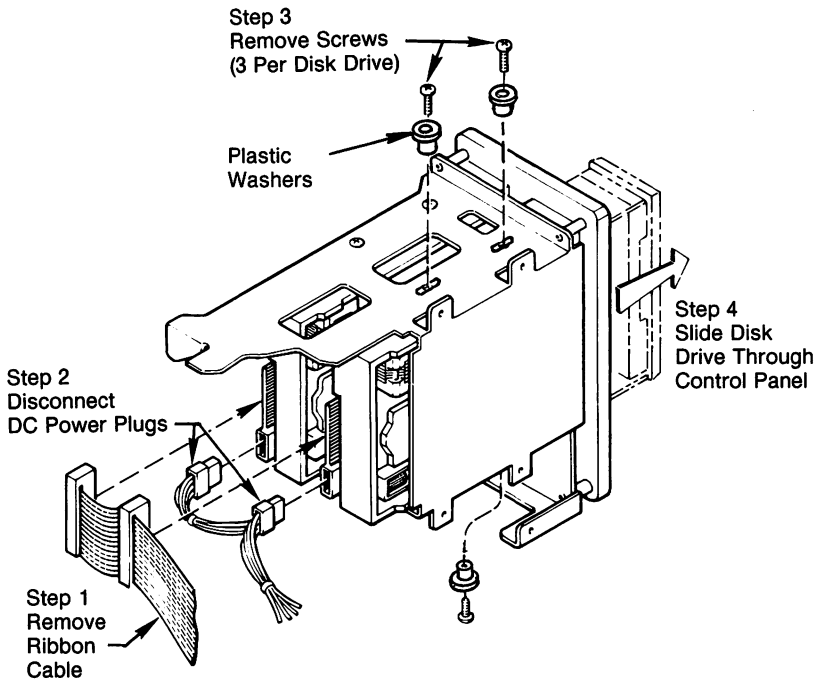

Figure 4-14 Flexible Disk Drive Removal
Remove the cabinet as previously described. Refer to Figure 4-14 for parts illustrations.
7. Pick-up the three screws and plastic washers and place a plastic washer on each of the three screws, with the largest diameter of the washer against the underside of the screw head. Refer to Figure 4-14 and insert two screw/washers into the two top mounting slots. Make sure that smallest diameter of plastic washers are seated into slots in drive bracket and then into the threaded holes of the flexible drive. Snug, but do not yet fully tighten these two screws.
8. Also as indicated in Figure 4-14, insert the bottom screw and washer and snug but not yet fully tighten, again making sure the washer seats in the drive bracket slot.
Remove the cabinet as previously described. Refer to Figures 4-14 and 4-15 for parts illustration.
4. Pick-up the three screws and plastic washers and place a plastic washer on each of the screws with the largest diameter of the washer against the underside of the screw head. Refer to Figure 4-14 and insert two screw and washers into the two top mounting slots. Make sure that smallest diameter of plastic washers are seated into slots in the drive bracket and that the screws are aligned to go into the threaded holes of the flexible drive. Snug, but do not yet fully tighten these two screws.
5. Also as indicated in Figure 4-14 insert the bottom screw and washer and snug but do not yet fully tighten, again making sure the washer seats in the drive bracket slot.
The next several steps involve attaching the cables to the rear of the flexible drive, refer to Figure 4-14 for additional clarity.
11. Install the new ribbon cable as shown in Figure 4-14. Route the cable in the same fashion as the previous one and connect the single-connector end to the controller card in the rear of the computer.